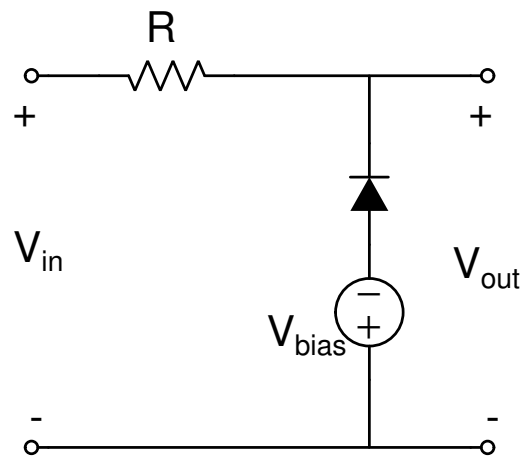
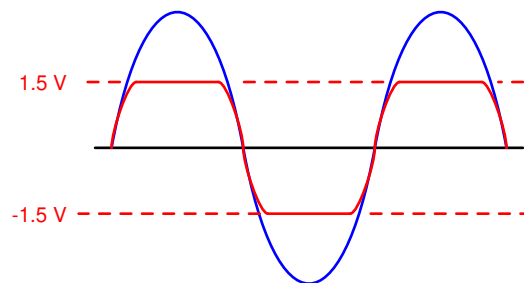

Figure 3: Negative Bias
Figure 4: Clipping both half cycles
- (a) Now switch the resistor and the diode and connect the circuit as shown in Fig. 3. Use the DC power supply to give the bias voltage. Vary the bias voltage and observe its effects on the output and derive the expression for the output signal.
- (c) Observe the waveform in Fig. 4 and derive the transfer characteristics. Design the circuit that exhibits the derived transfer characteristics by modifying the circuit in Fig. 3.